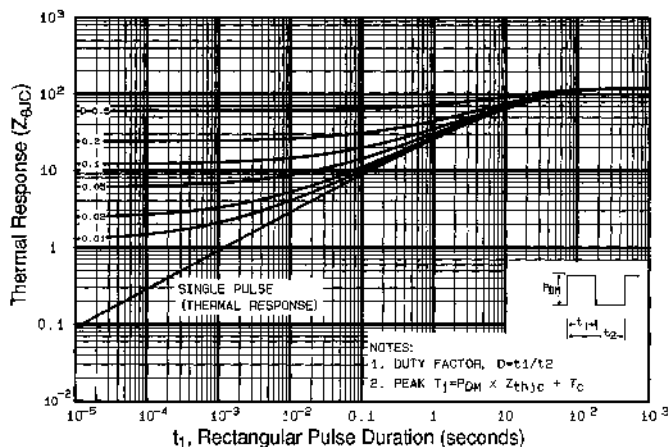

Fig 11. Maximum Effective Transient Thermal Impedance, Junction-to-Case
① Repetitive rating; pulse width limited by max. junction temperature (See Figure 11)
② $I_{SD} \leq 3.3A$, $di/dt \leq 70A/\mu s$, $V_{DD} \leq V_{(BR)SS}$, $T_J \leq 150^\circ C$